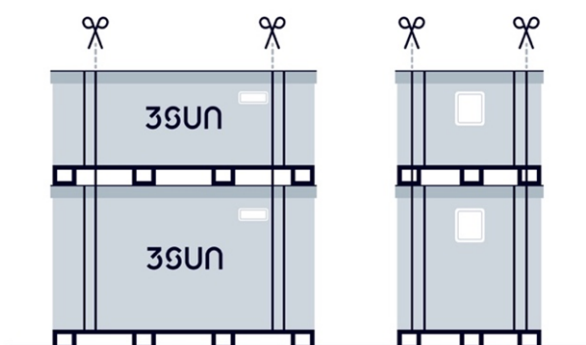

Figure 13: Position of outer straps.
3. Cut the 4 outer straps that tie together the top and bottom boxes, indicated in Figure 13 below.